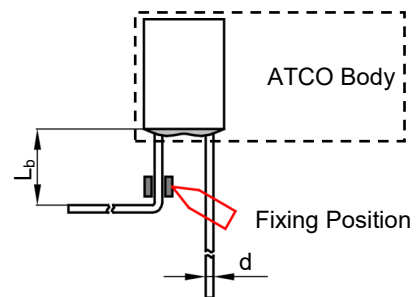

FIGURE TY-2
2. When bending leads, please use pincher or similar tools to fix the product as shown in Fig.TY-2, to avoid damaging the product.